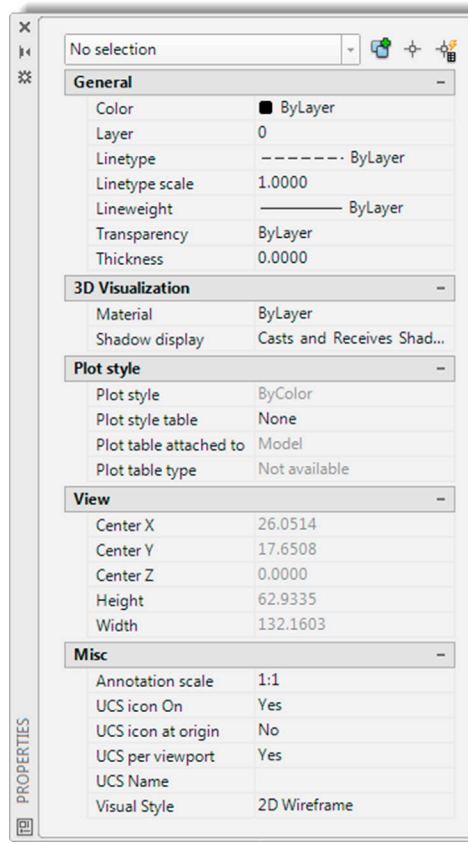

FIGURE 3.10 Properties palette.
- Once you do any of these, the Properties box shown in Fig. 3.10 appears.